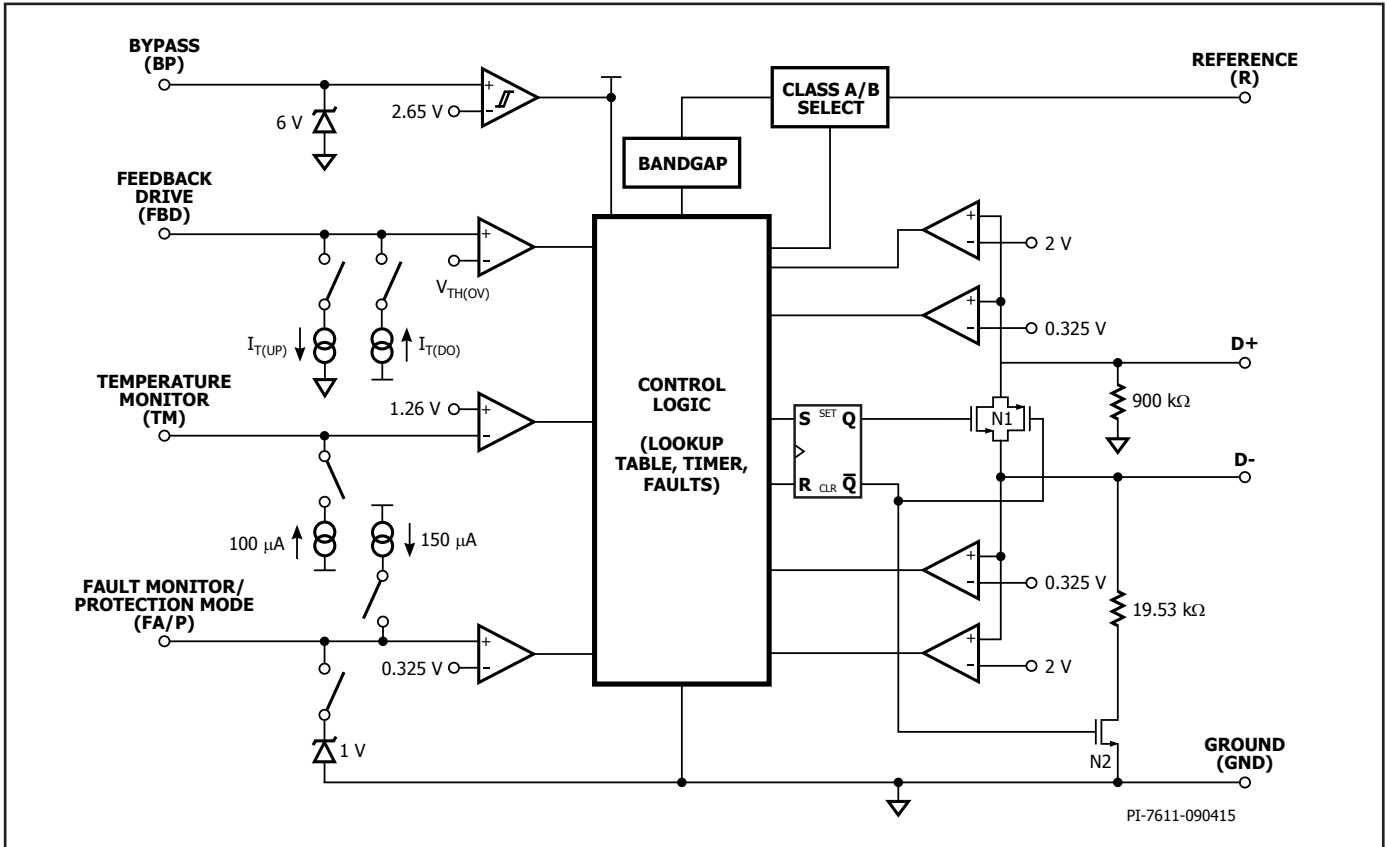

Figure 3. Functional Block Diagram.
At power-up CHY103 turns on switch N1 (see Figure 3) short-circuiting USB data lines D+ and D- for the initial handshake between AC-DC adapter (DCP) and powered device (PD) as described in the USB Battery Charging specification revision 1.2. After the USB BC 1.2 handshake is completed, CHY103 will turn off switch N1 if it detects a Quick Charge 3.0 or Quick Charge 2.0 compliant PD. At this point the Quick Charge 2.0 handshake followed by the Quick Charge 3.0 handshake can take place as described in the Quick Charge 2.0 and Quick Charge 3.0 protocol specification. Upon completion of the Quick Charge 2.0 and Quick Charge 3.0 handshakes, CHY103 will turn on switch N2 (see Figure 3) connecting a 19.53 k Ω pull-down resistor to USB data line D-.
When the USB cable is unplugged the voltage level at D+ is pulled down by CHY103's internal resistor (see Figure 3). Once it drops below 0.325 V CHY103 will enter default mode (switch N1 is on, switch N2 is off) and sets the default output voltage of 5 V.